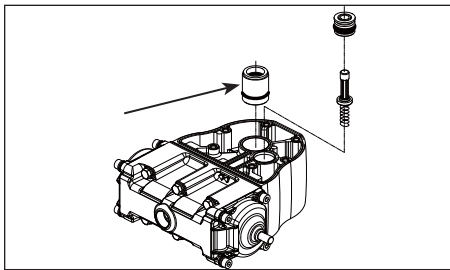

Figure 23
- Draw out the throat bearing (See Figure 23).
- Pilot valve assembly (See Figure 23)